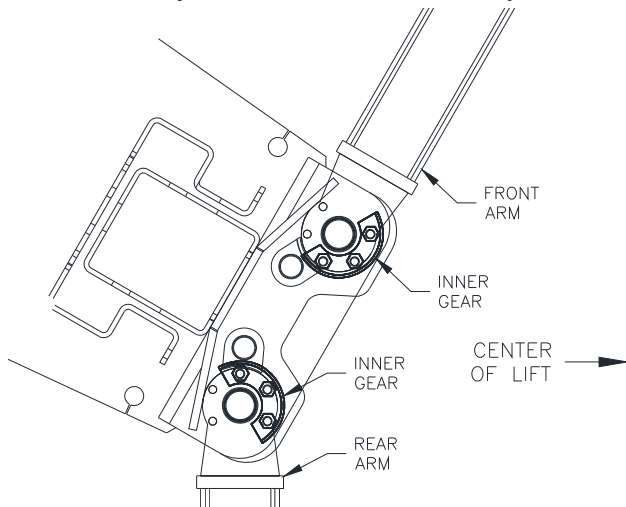

Fig 21 – Asymmetric Inner Gear
- 39) With arms spread open, Inner Gear should be rotated to face center of lift for all (4) arms as shown in **Fig 21**. Lubricate the Arm Pin or carriage arm pin hole with “anti-seize” and install the arms. Place snap ring in groove on bottom of Arm Pin. Ensure that the arm restraint gears engage and disengage properly. Arm restraint gears should disengage completely when lift is fully lowered. When gears are engaged, Outer Gear should lower enough for top of teeth to be level with top of Inner Gear teeth. If any binding occurs, adjust Inner Gear as necessary.